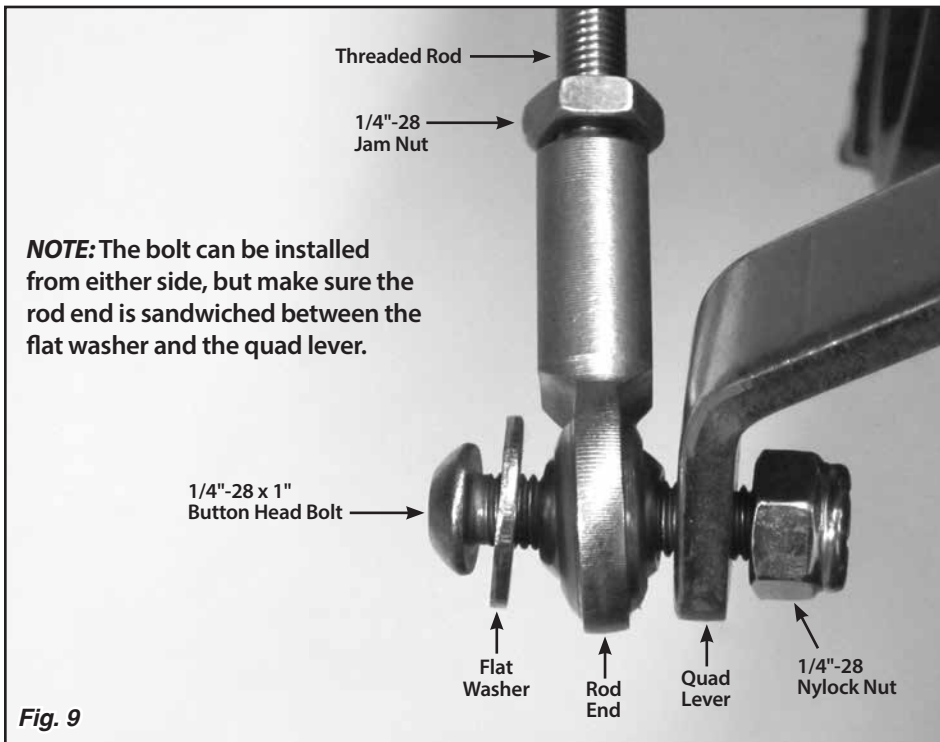
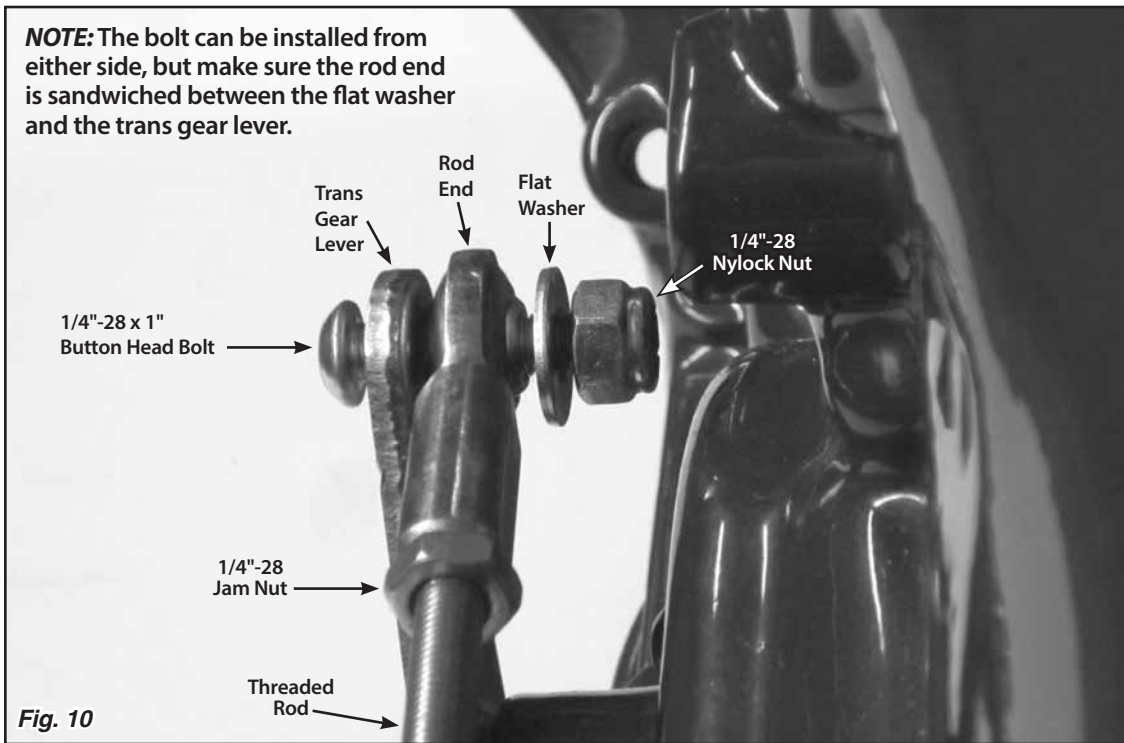

Fig. 9
Fig. 10
Step 14: Verify that both 1/4"-28 jam nuts are on the threaded rod, and install a rod end onto each end of the threaded rod. Attach the threaded rod assembly to the **inside** of the trans gear lever and to the **outside** of the quad lever using the 1/4"-28 x 1" button head bolts, flat washers, and nylock nuts as shown in **Fig. 9** and **Fig. 10**. The button head bolts can be installed from either direction, but make sure the rod end is sandwiched between the flat washer and the trans gear lever or quad lever.